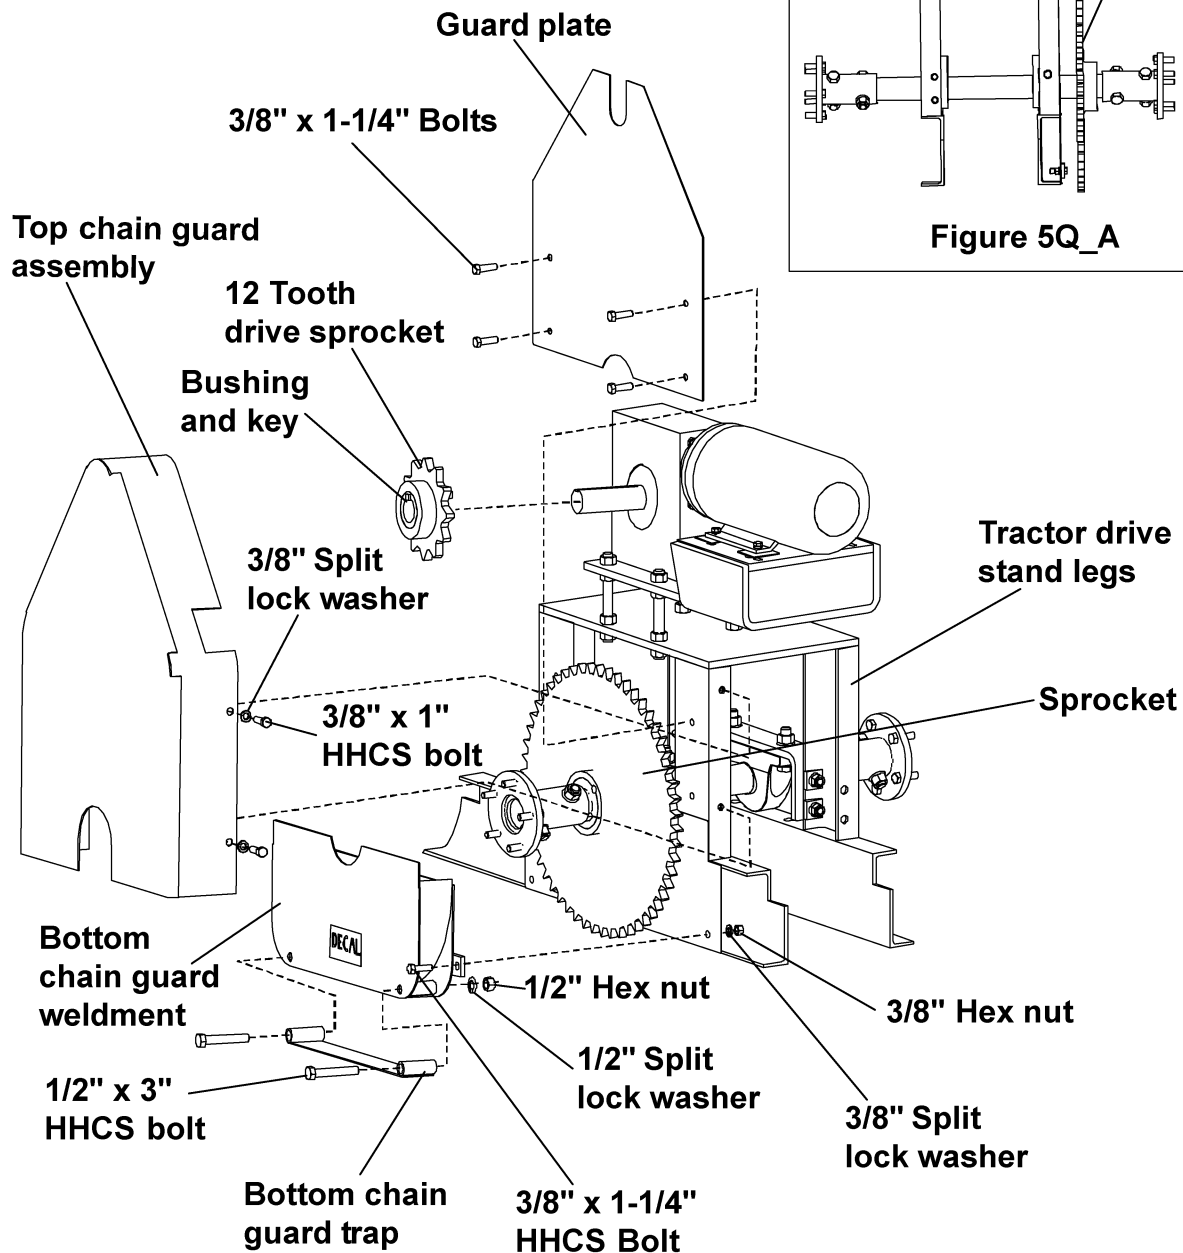

Figure 5Q
- Attach the Guard Plate to the Tractor Drive Stand Legs using 3/8" bolts and nuts before attaching the drive sprocket. (See Figure 5Q.)
- Slide the twelve tooth drive sprocket, bushing, and key (see key chart for your size key) onto the output shaft of the reducer, make sure both sprockets line up. (See Figure 5Q and Figure 5Q_A.)
- Attach Top Chain Guard Assembly to Tractor Drive Stand using 3/8" x 1" bolts, 3/8" split lock washers and 3/8" hex nuts. (See Figure 5Q.)